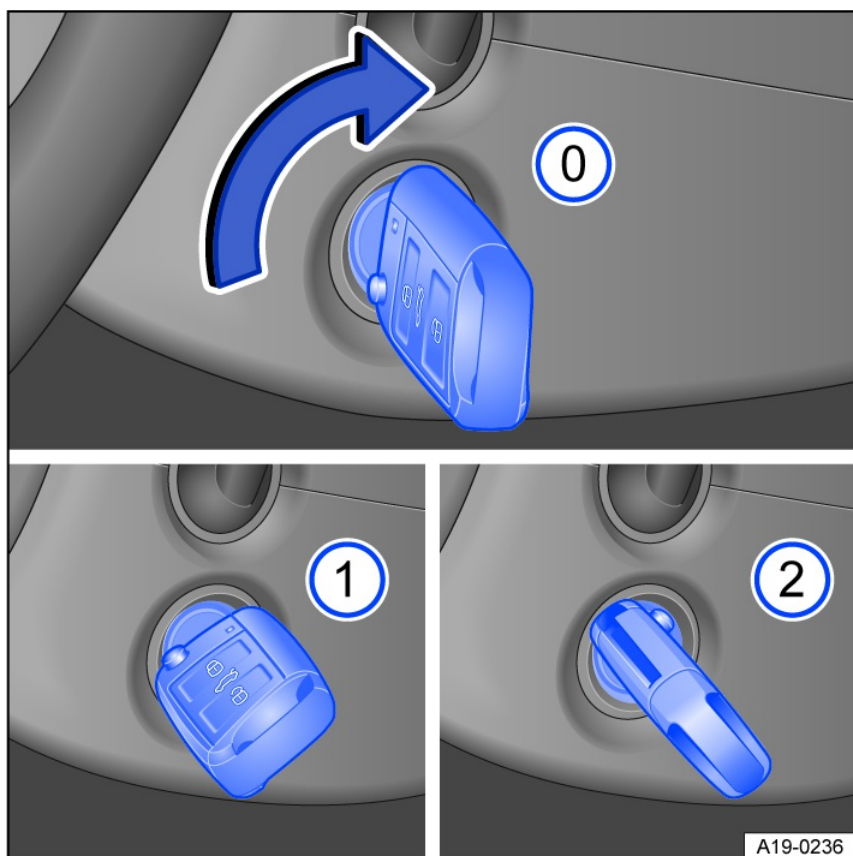

Fig. 95 Next to the steering wheel on the right side: positions of the vehicle key in the ignition lock.
Vehicle key positions *fig. 95*:
- ① The ignition is switched off. The vehicle key can be removed.
- ② The ignition is switched on. The steering lock can be released.
- ③ Press the brake pedal when the  indicator light is green. Start the engine. Release the vehicle key once the engine has started. The vehicle key returns to the position *fig. 95* ② once it is released.